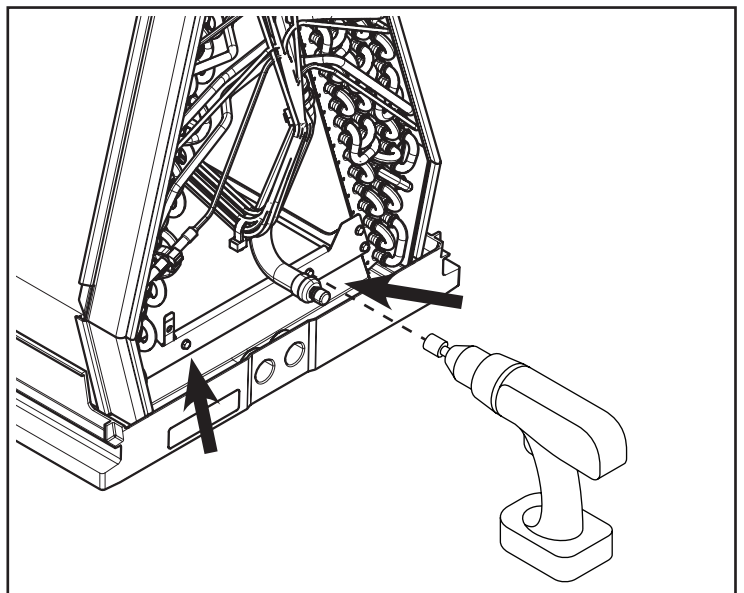

Figure 30 – Remove downflow drain pan
11. Remove the down flow drain pan by removing four screws as shown in Figure 30. Lift the coil from the downflow drain pan. Keep the drain pan and four screws.